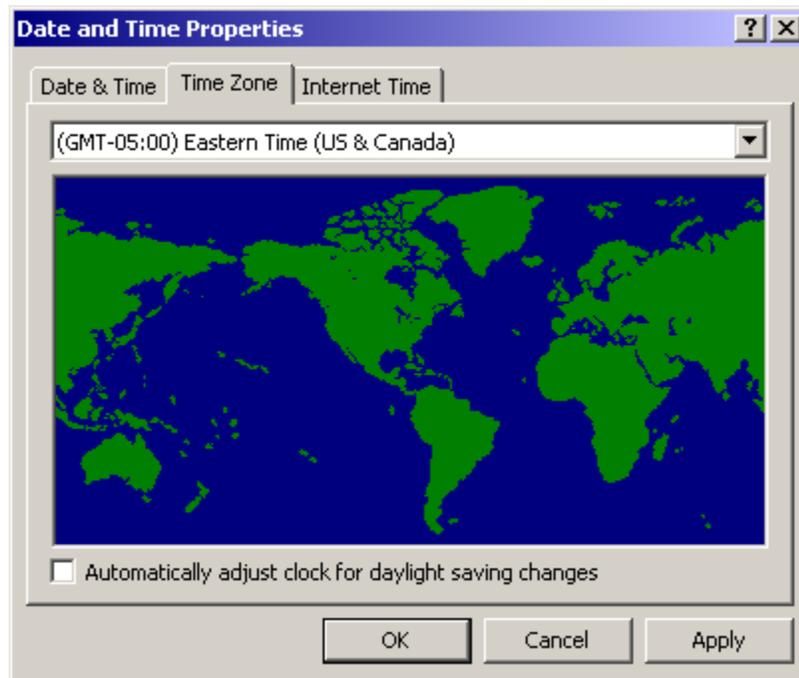

FIGURE 126. Changed Date and Time Properties
5. Select the Time Zone tab on top. This will bring up the window as in Figure 126.